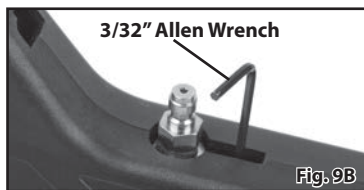

Fig. 9B
4. Locate the pressure relief screw located forward of the Fill Nipple and beneath the stock outer wall (See Fig. 9B).